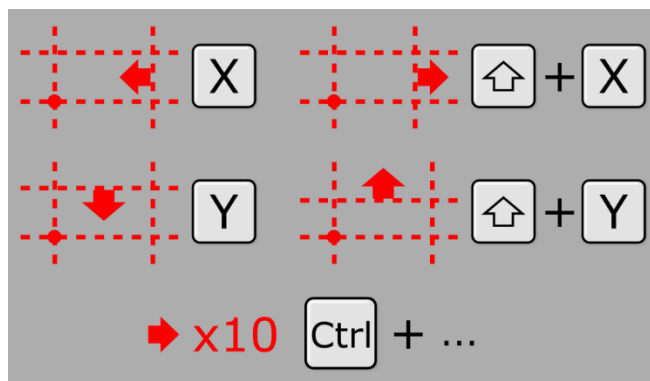

Figure 8 - Smart Cut re-scaling instructions
**Re-scaling.** To adjust the grid size during Smart Cut mode, use the keyboard shortcut described in Figure 8 :